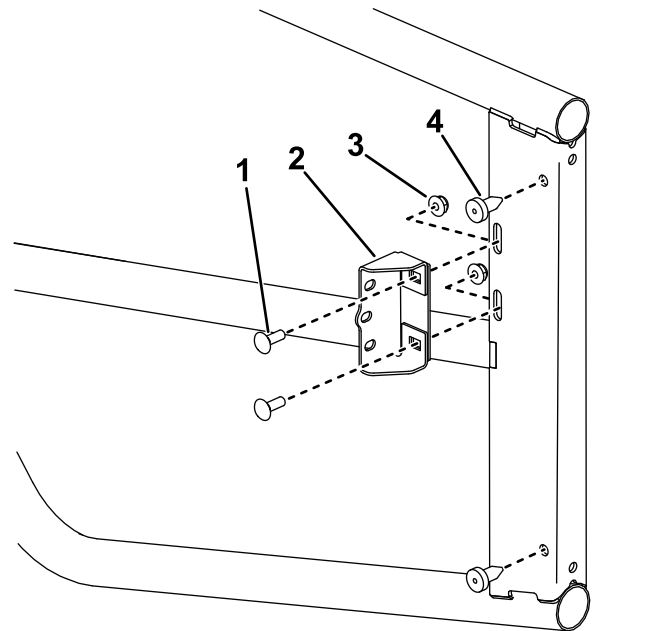

Figure 5
5. Install 2 rubber bumpers to the inside of the door assembly (Figure 5).
6. Install the door latch brackets to the door assembly (Figure 5).